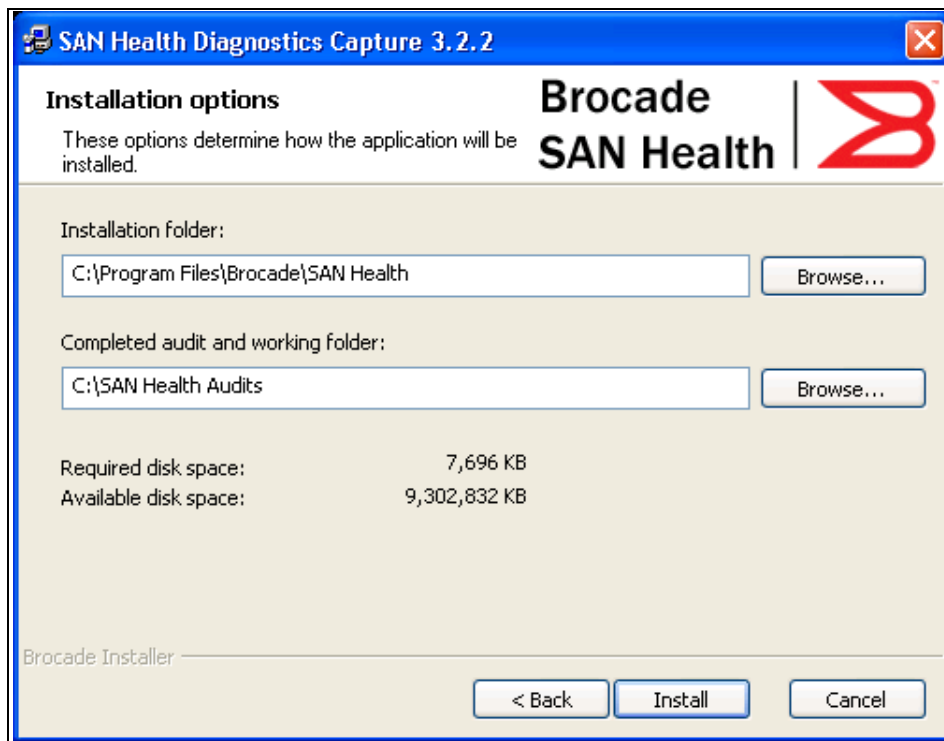

Figure 17-3 SAN Health installation options
5. In the next panel, you select the installation folder and the audit and working folder. Check if you have enough space (10 MB) to load SAN Health. Click **Install** to install San Health as shown in Figure 17-3.